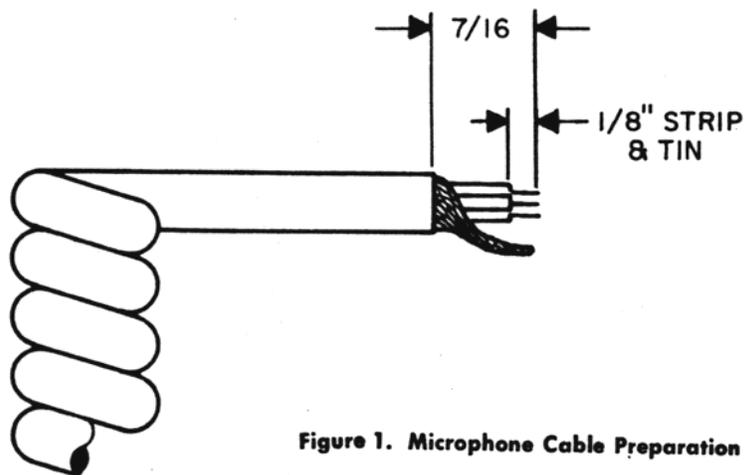

Figure 1. Microphone Cable Preparation
1. The leads should be cut so that they extend $\frac{7}{16}$ " beyond the plastic insulating jacket of the microphone cable. See Figure 1 below.